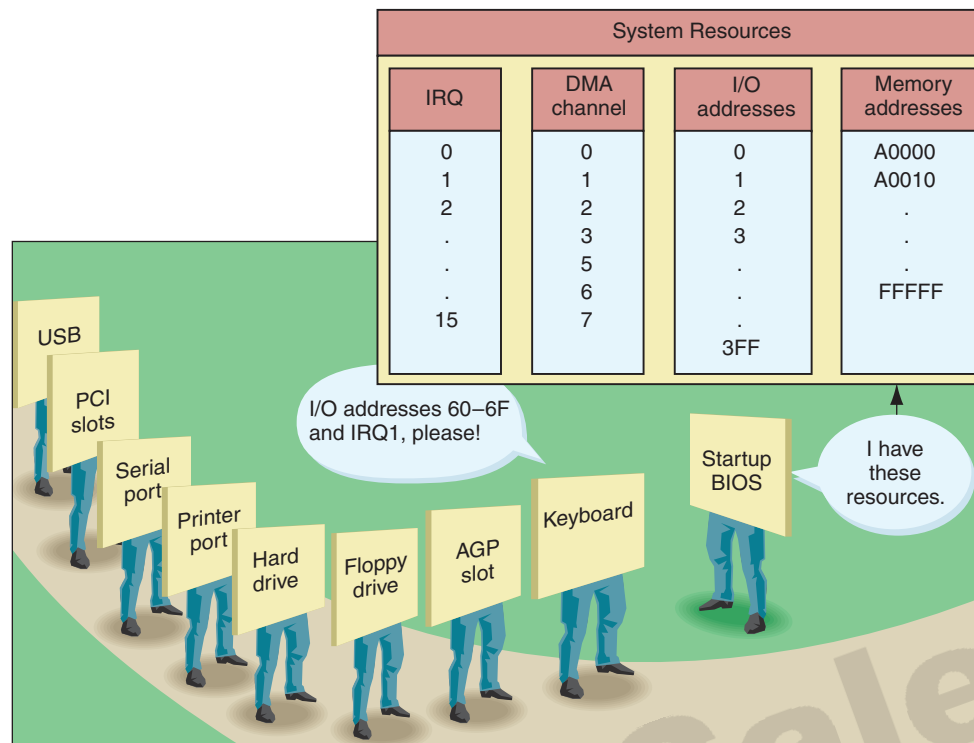

Figure 3-34 Boot Step 1: The BIOS startup program surveys hardware resources and needs and assigns system resources to satisfy those needs
1. *The startup BIOS runs the POST and assigns system resources.* Recall from Chapter 2 that the POST (power-on self test) is a series of tests performed by the startup BIOS to determine if it can communicate correctly with essential hardware components required for a successful boot. The startup BIOS surveys hardware resources and needs, and assigns system resources to meet those needs (see Figure 3-34). The startup BIOS begins the startup process by reading configuration information stored primarily in CMOS RAM, and then comparing that information to the hardware—the processor, video slot, PCI slots, hard drive, and so on. (Recall that CMOS RAM is a small amount of memory on the motherboard that holds information about installed hardware.)